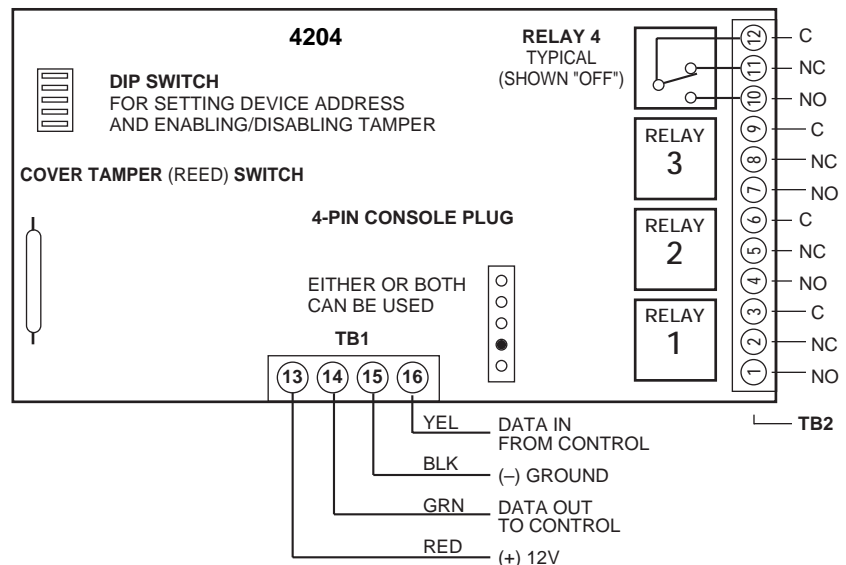

Figure 9. 4204 Connections to Control
3. **Connect the desired field wiring to the unit's relay contact terminals.** See Figure 9.